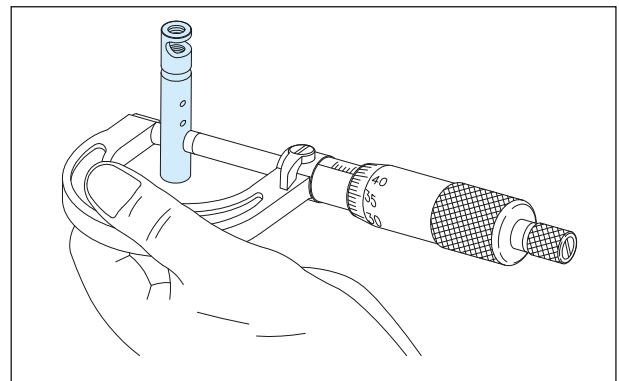

Fig. 3.109
- Measure the outer diameter (OD) of shaft rocker arm. If the OD is less than the service limit, replace the shaft. (Fig. 3.109)